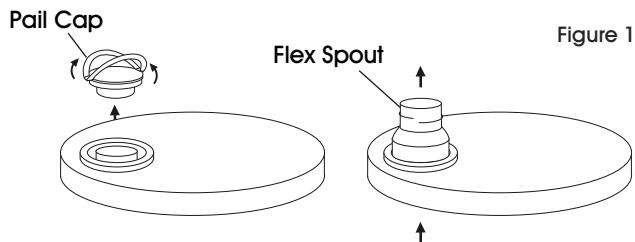

Figure 1
1. Remove pail cap from the flex spout. Push flex spout up from bottom of lid. (See Figure 1)